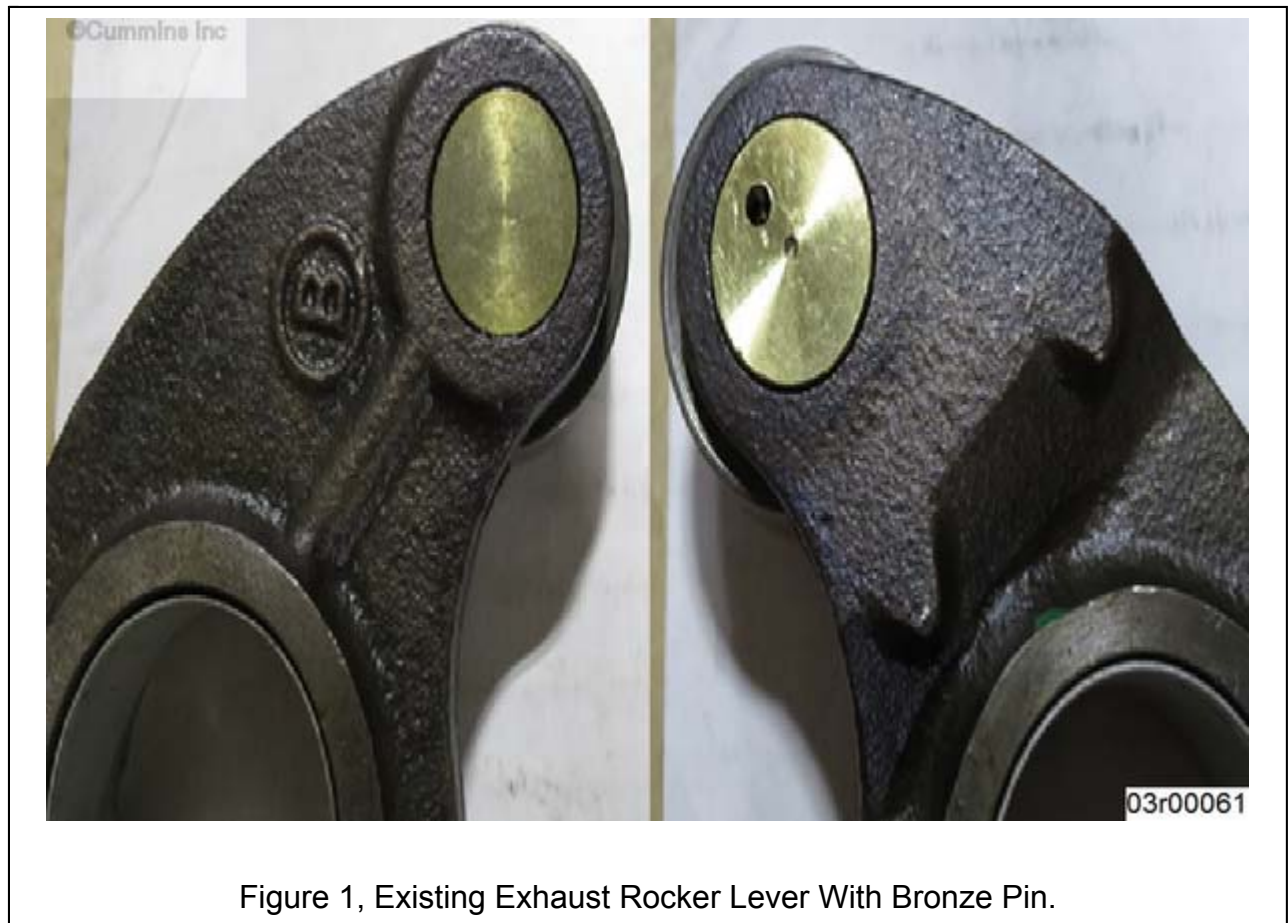

Figure 1, Existing Exhaust Rocker Lever With Bronze Pin.
- A bronze colored, solid pin. See Figure 1 below.